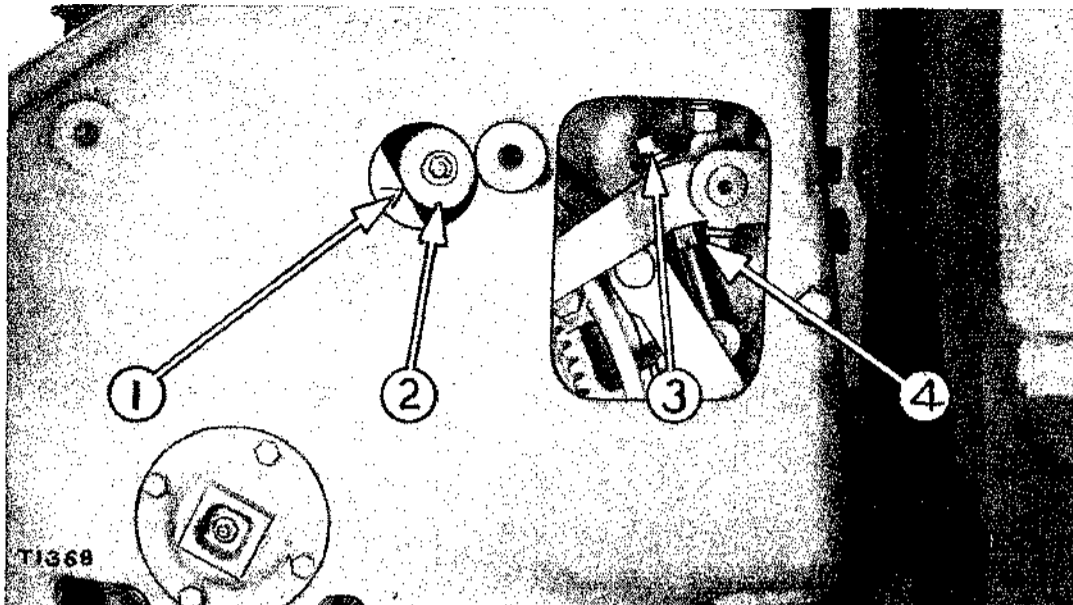

FIGURE 9—BRAKE ADJUSTMENT
- (1) The clutch and brake are operated by the control rod which is connected to the clutch engagement lever. A roller on the clutch lever contacts a ramp on the brake lever which actuates the brake.
- (2) Any wear in the brake mechanism causes the roller on the clutch lever to move from its original position on the brake lever ramp and in turn changes the amount of free movement in the clutch mechanism. Therefore, it is necessary to make the brake adjustment before making the clutch adjustment.
B. Brake Adjustment. (See figure 9.)
- (1) Adjust the brake by aligning the center of the roller (2) on the clutch lever with the "V" mark (1) on the brake lever.
- (a) Loosen the locknut (4) and tighten the adjusting nut (3) to move the brake lever downward. This allows the clutch return spring to pull the center of the roller to the "V" mark.